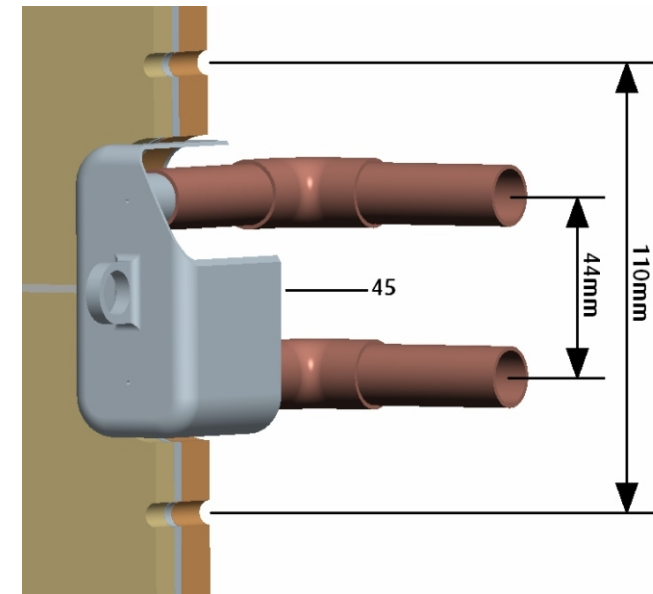

Fig. 3
4.2.1.3 Use plastering shroud (45) as a guide to finish wall (see Fig.3 below). The shroud will also assist in maintaining the required pipe centres of 44mm.